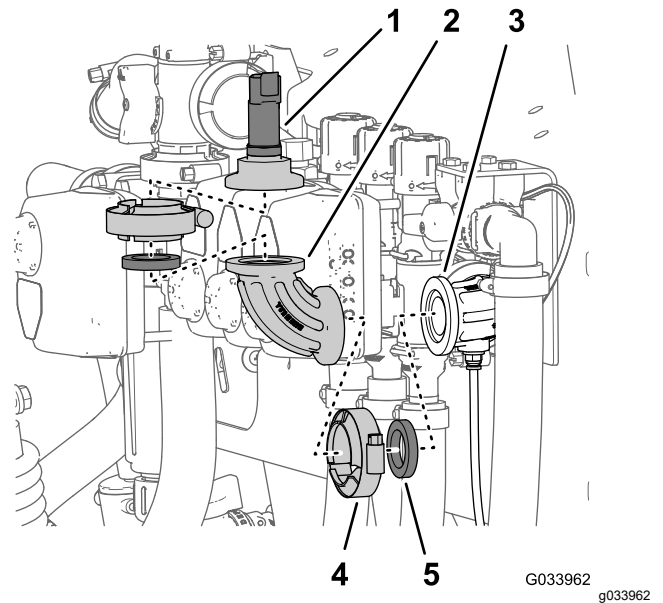

Figure 38
2. Remove the flange clamp that secures the pressure transducer to the 90° fitting, and remove the transducer, gasket and flange clamp (Figure 38).
4. Remove the flange clamp that secures 90° fitting to the 90° fitting with a connector for the sense tube, and remove the 90° fitting, gasket and flange clamp (Figure 38).